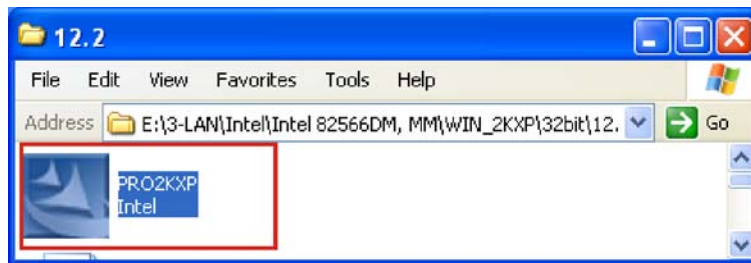

Figure 7-15: LAN Driver File
Step 2: Browse to the LAN driver directory ("E:\3-LAN\Intel\Intel 82566DM, MMWIN_2KXP\32bit\12" for Windows XP (**Figure 7-15**).